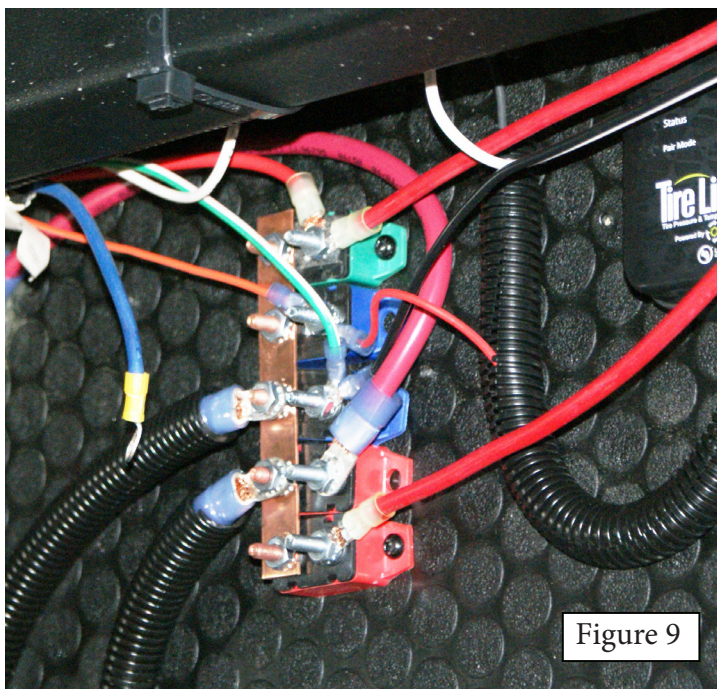
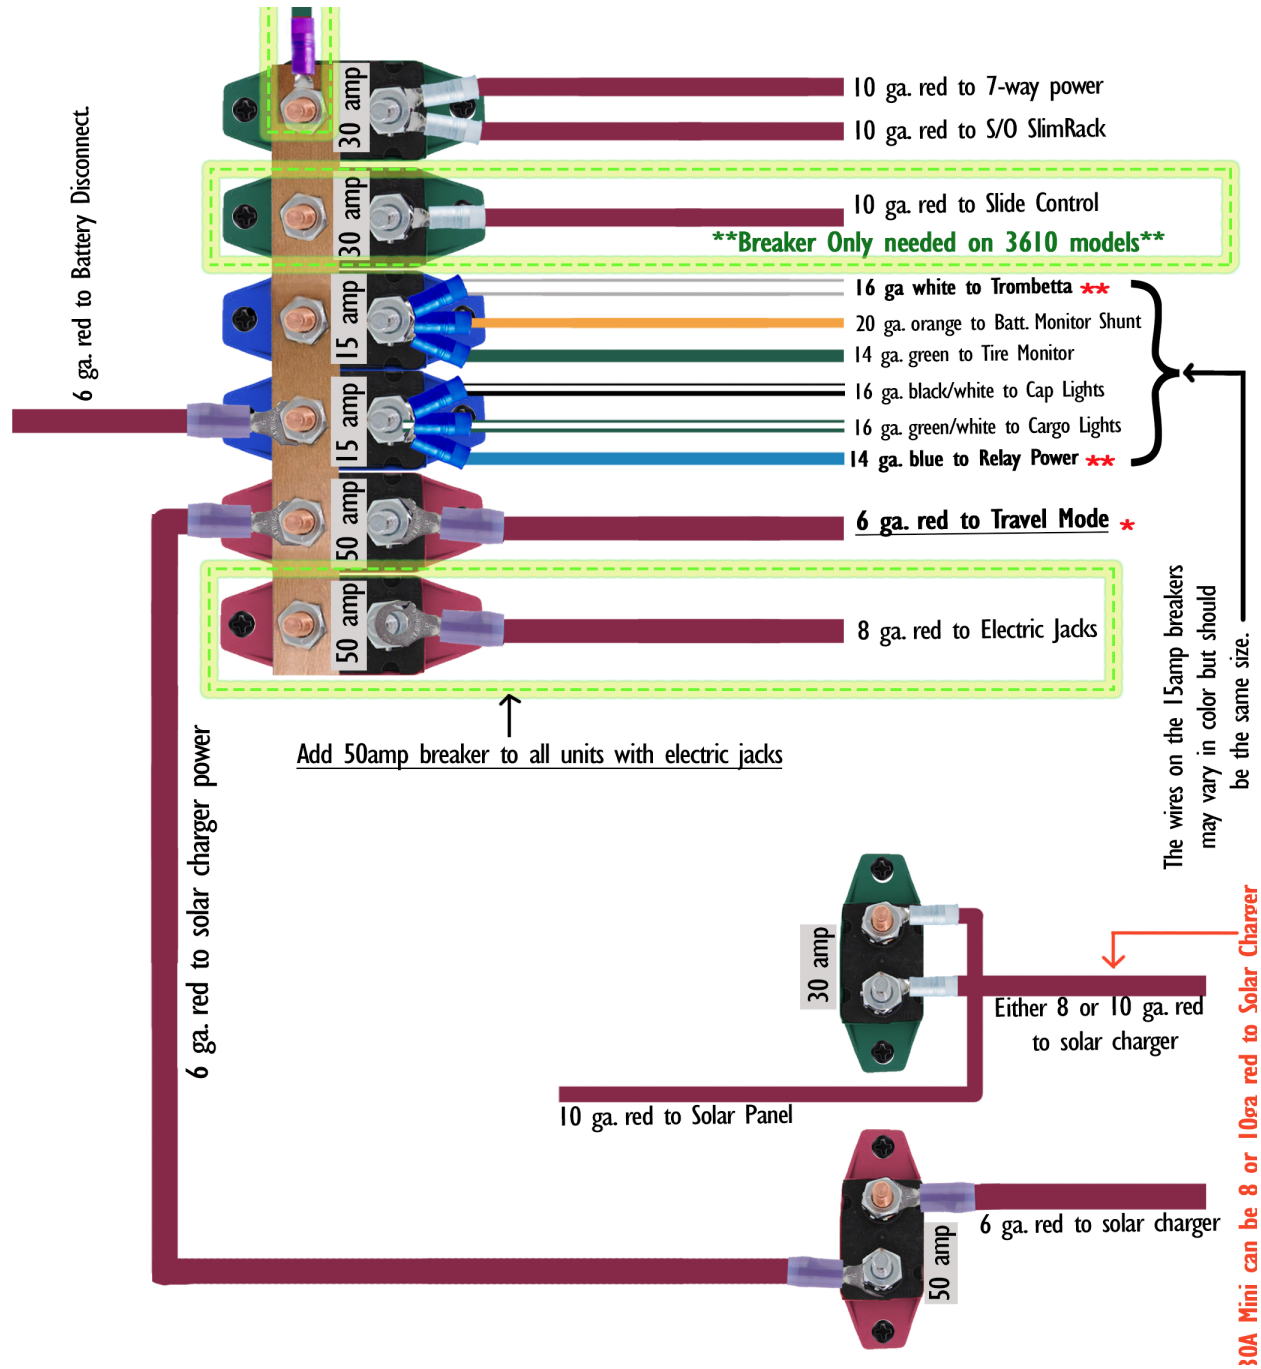

Figure 9
Figure 10
11. Attach the wire terminals to the mini breakers per Figure 9 and Figure 10: